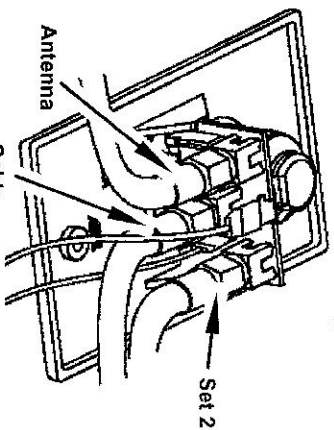
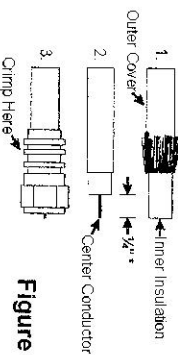

Figure 4
Figure 5
STEP 4. Install connectors on downlead and set 2 cables as shown in Figure 5. Attach downlead cable to jack on wall plate/power supply marked antenna as shown in Figure 4. Attach cable going to set 2 outlet to jack on power supply marked SET 2. Attach cable coming from cable input to jack on power supply marked CABLE.